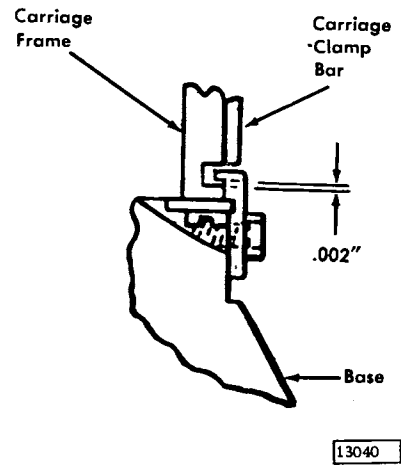

Figure 4-21. Clamp Bar
5. The carriage clamp bar front is attached to the lower base by two socket setscrews. Position the clamp bar so that there is 0.002" maximum clearance between the clamp bar and the carriage frame (Figure 4-21).